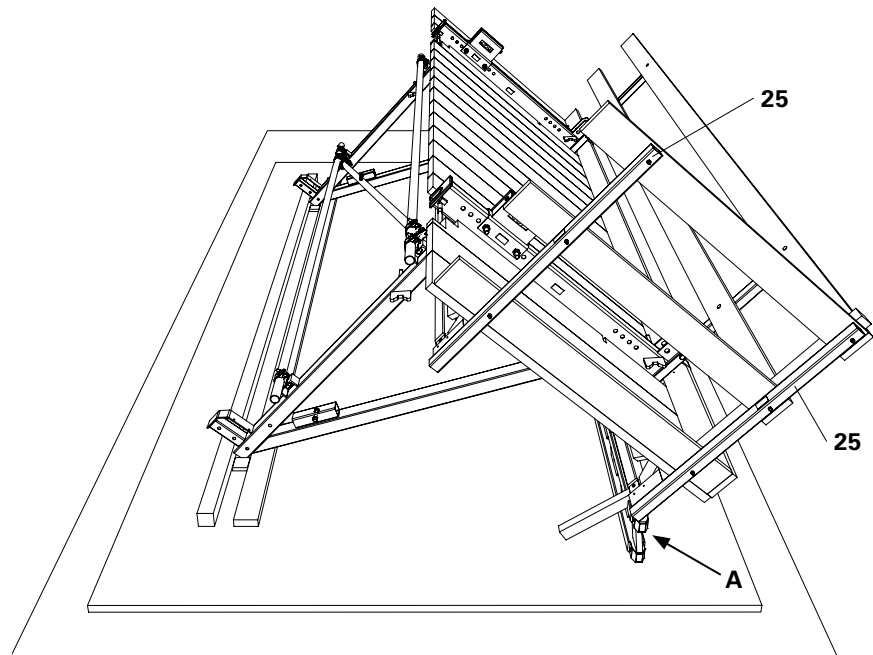

Fig. A2.01
1. Fix Side Guardrail Posts CB (25) to the girders using 5x Hex. Wood Screws DIN 571 6 x 80 (10) each.
2. Fix handrail boards and toe board with F. H. Bolts DIN 603 M6 x 100 MU (12). (Fig. A2.01 + A2.01a)